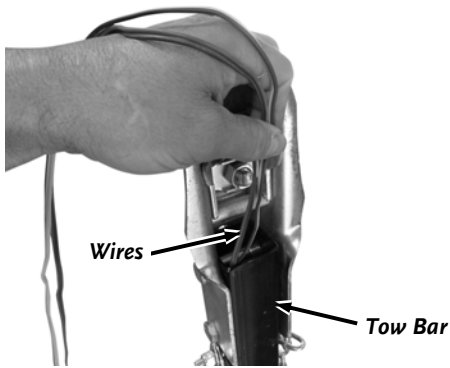
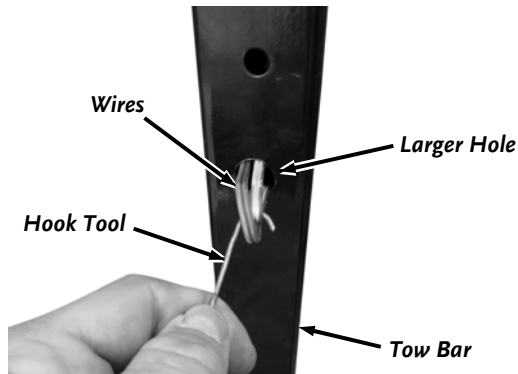

Figure 7
Figure 8
1. Insert the ends of the Yellow/Brown and Green/Brown Wires of the Wire Harness into the Tongue Assembly and down into the Tow Bar (**Figure 7**) until they reach the large hole (**Figure 8**).